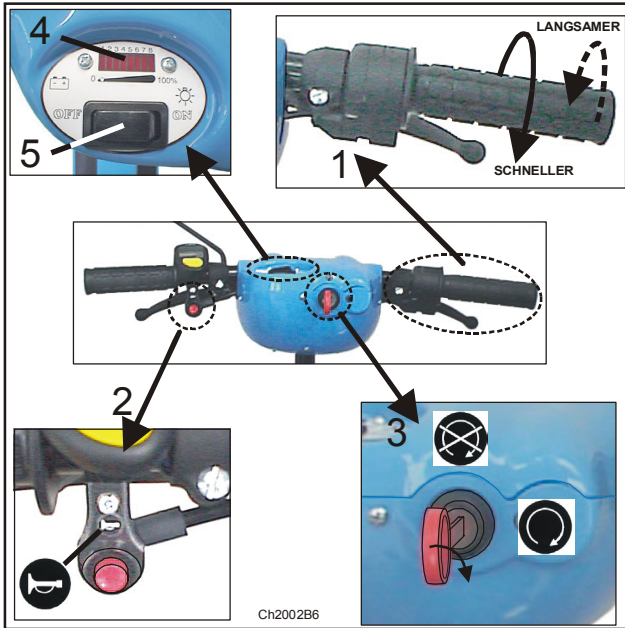

Fig. 5 Handlebar controls
- *Driving with the lights ON (see figure 5)*
- *Horn (see figure 5)*